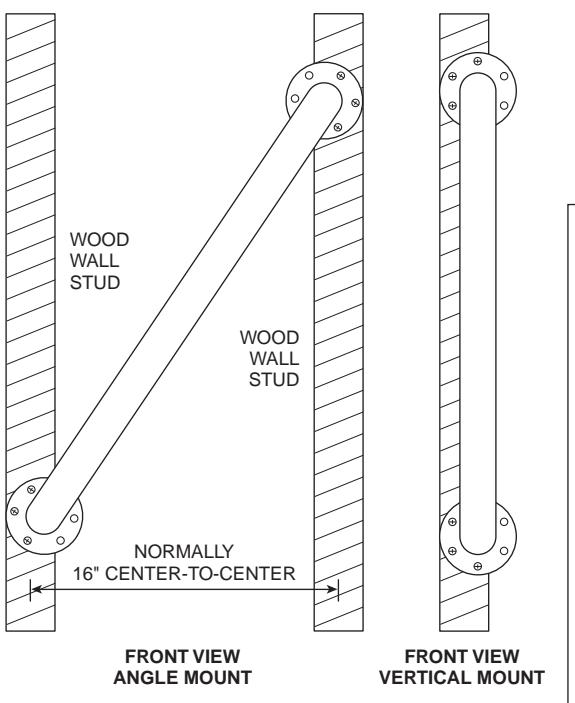

Figure 2
<p>GRAB BAR MAY NOT PROVIDE DESIGNED AMOUNT OF SUPPORT UNLESS THESE INSTALLATION INSTRUCTIONS ARE STRICTLY FOLLOWED.</p> <p>For proper installation, both ends of Grab Bar MUST be positioned over a wall stud. For solid support, at least two (2) of the three (3) screws on the end of the Grab Bar MUST go through the wallboard or tile and be tightly secured into the wall stud. Given standard stud sizes, only two (2) of the three(3) screws may screw into the wall stud.</p> <p>Grab Bar may be installed vertically, horizontally or at an angle, so long as at least two (2) of the three (3) mounting screws on both ends of the Grab Bar are secured into a wall stud (see Figure 2). Locate the wall studs behind the wall before beginning installation (a stud finder can be obtained from a hardware store).</p>	<p>THE FOLLOWING STEPS REQUIRE DRILLING INTO THE WALL.</p> <p>When drilling into the wall, exercise care to avoid any electrical wiring or plumbing that may be located behind the wall. Damaged electrical wiring can cause electrical shock and/or fire. Since older homes do not always fall in line with current housing codes and requirements, know where internal wall wiring is located so that no wires will interfere with your installation.</p> <p>PROPER INSTALLATION IS EXTREMELY IMPORTANT. IF IN DOUBT, INSTALLATION SHOULD BE DONE BY A QUALIFIED PROFESSIONAL.</p>